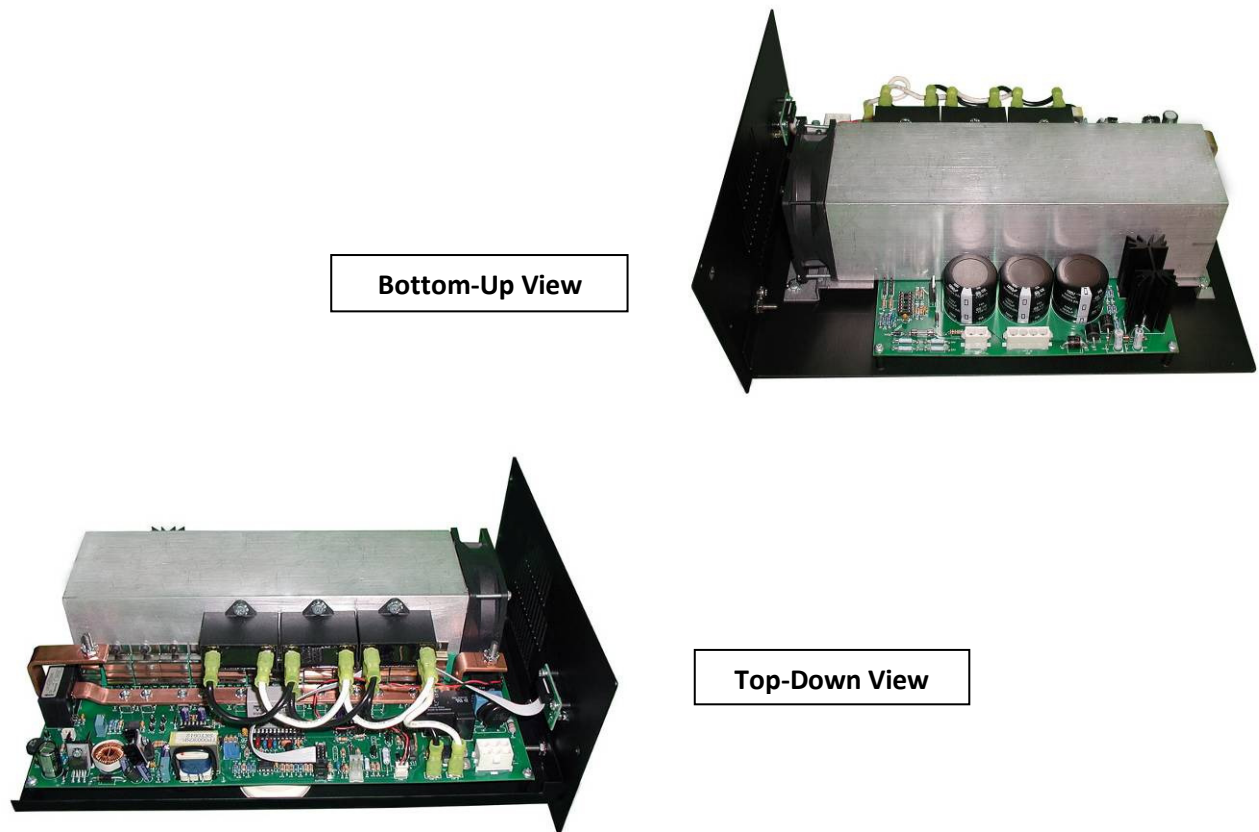

Figure 8: Power Module
- The power inverter module of the XINV-4000-NRE utilizes a rugged design with a microprocessor-controlled 20 kHz sine wave inverter. The module is designed for easy field replacement and has been conformally coated for use in severe outdoor environments. See Figure 8.